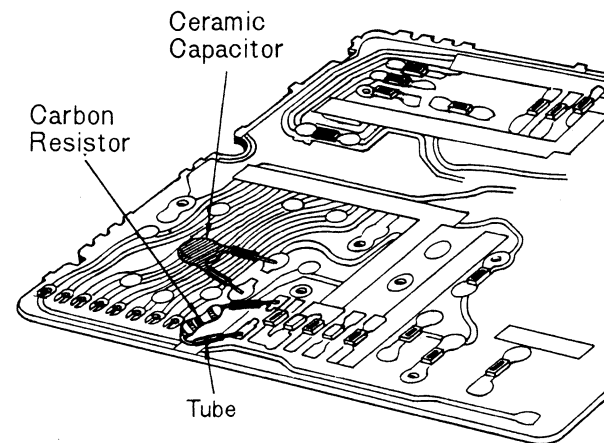

Fig. 30
- 3. Use tube for service parts as shown in fig. 30 and solder service parts according to following table. (please refer to Circuit Board Wiring View for the value of resistor and capacitor).